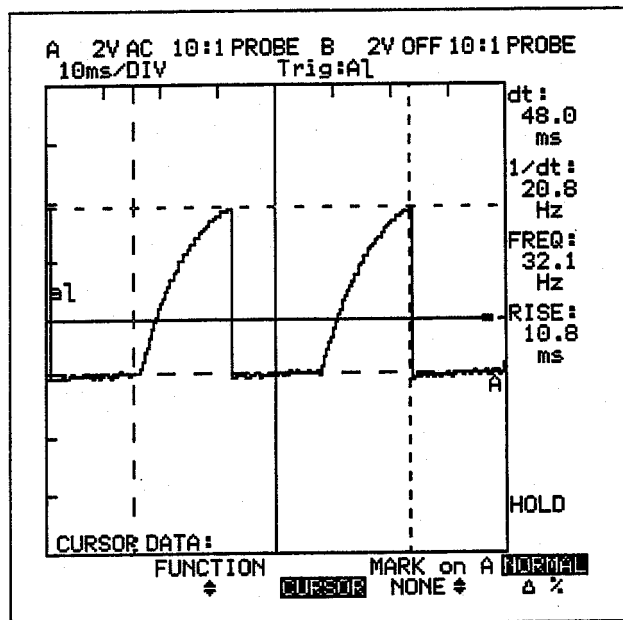

Figure 6.21
- Use **← CURSOR** and **(CURSOR) →** to locate the cursors as shown in Figure 6-21.